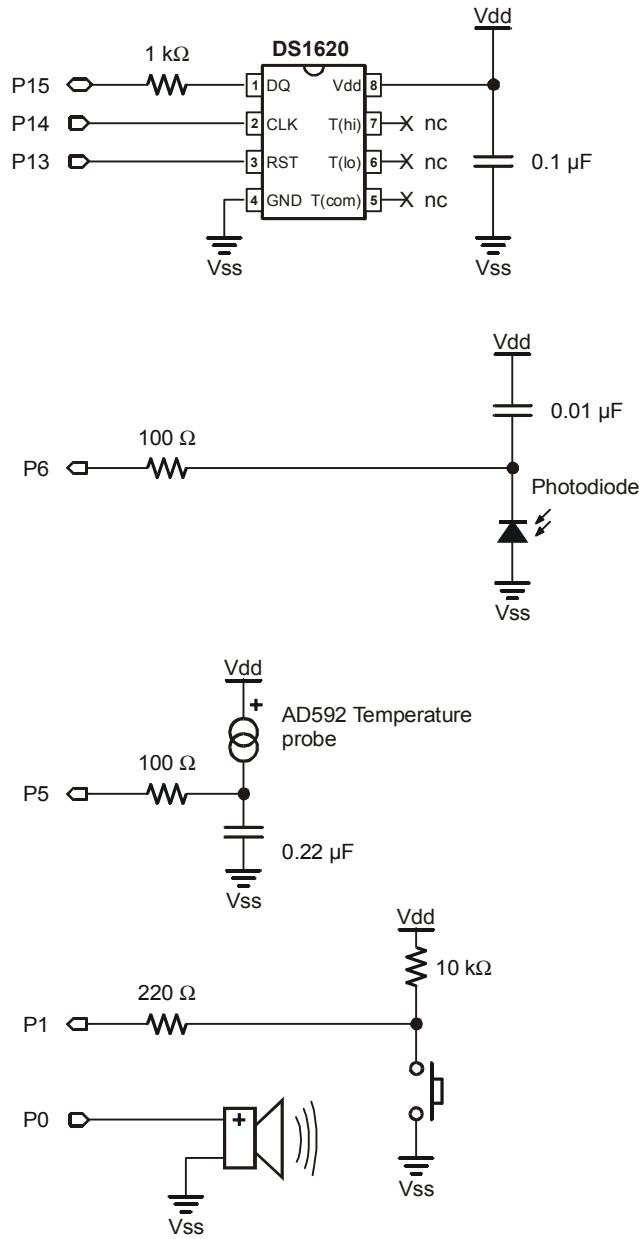
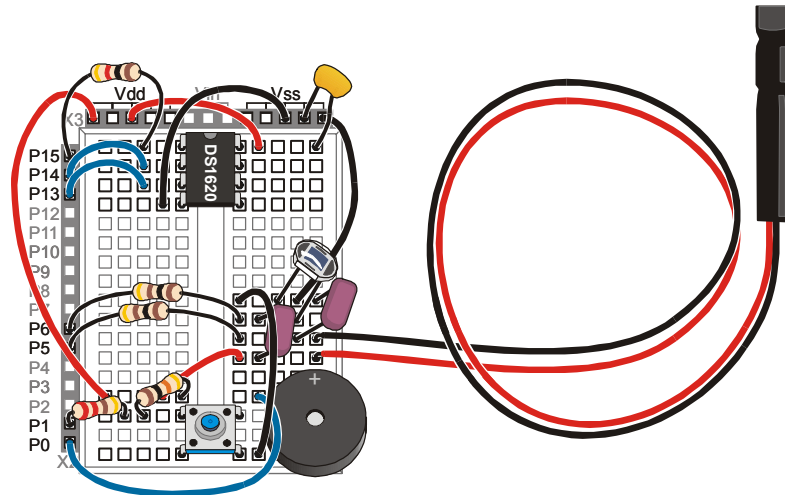

Figure 4-6
Figure 4-7: Photodiode Light Transducer Wiring Diagram
- ✓ Add the circuit to your breadboard as shown in the schematic (Figure 4-6) and wiring diagram (Figure 4-7).
Note: A node consists of all the points in a circuit that are connected together. Each row of 5 holes on the Board of Education or the HomeWork Board is a node, because all of the holes are connected electrically. One node in Figure 4-7 is the row where the diode, the capacitor and P6 (via the resistor) meet.